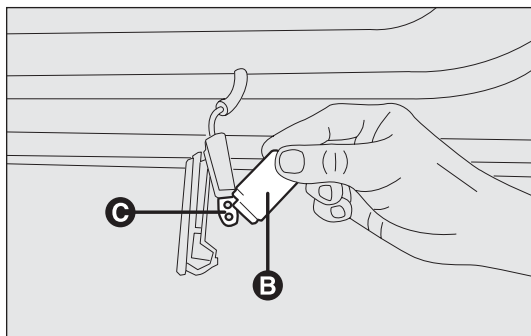

fig. 182
- ☐ press the sides of bulb shield B-fig. 182 on the two fastening pins and turn it;